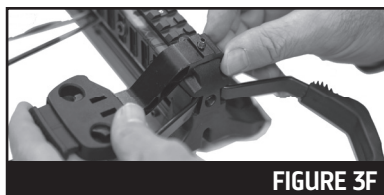

FIGURE 3F
- One (1) Quiver Bracket Screw
1. Slide the quiver bracket over the picatinny rail as shown in Figure 3F.